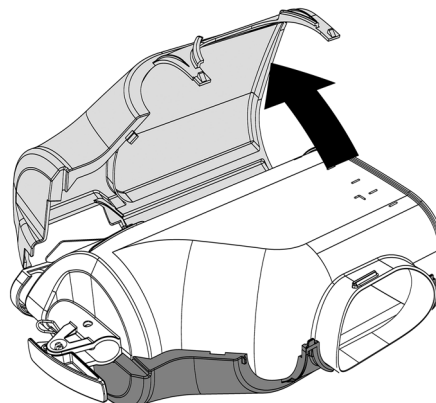
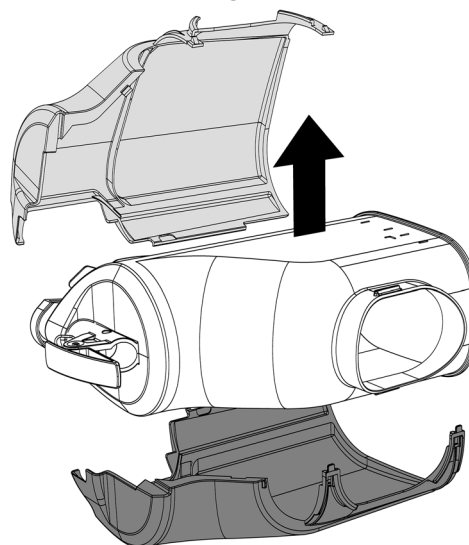

figure 14
figure 15
- 2 Remove the left-hand part and then the right-hand part of the recover. (see figure 14)(see figure 15).